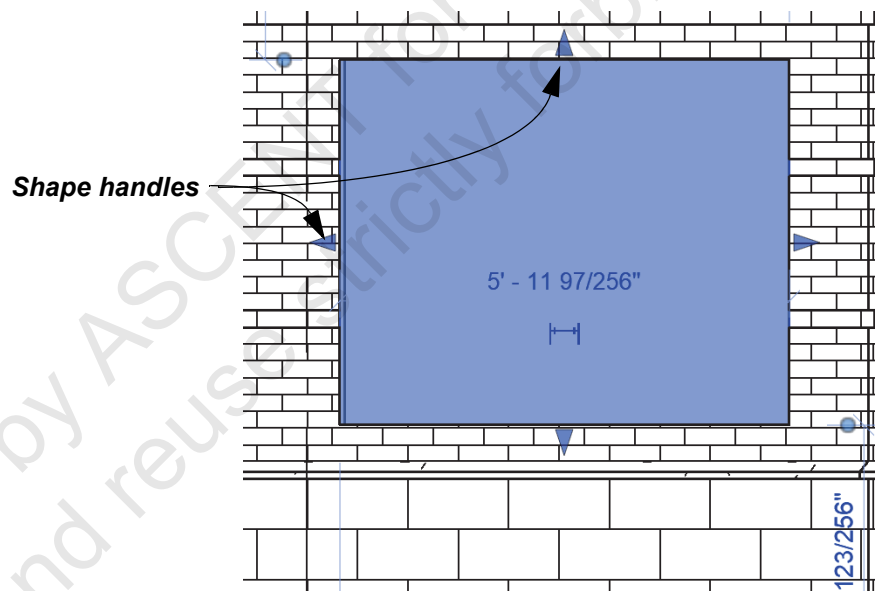

Figure 1–13
- You can use temporary dimensions to size the opening while in the command and both temporary dimensions and shape handles to modify the opening when it is selected, as shown in Figure 1–13.